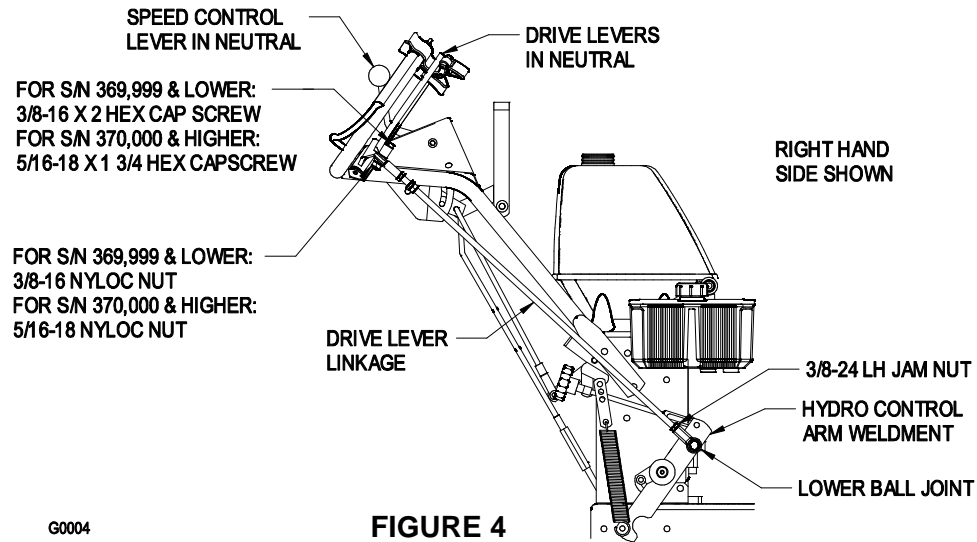

FIGURE 4
- 3.13 Install drive lever linkages. Refer to figure 4. Position speed control lever in neutral. Position drive levers in neutral and engage the neutral lock latches (See Figure 5 (b)). Drive lever linkages are shipped with upper ball joints installed. Thread a 3/8-24 LH jam nut, from the bolt bag, onto the lower end of each drive lever linkage. Identify the lower ball joints installed on hydro control arm weldments. Thread lower end of each drive lever linkage into the lower ball joint until hole in upper ball joint aligns with hole in drive lever.